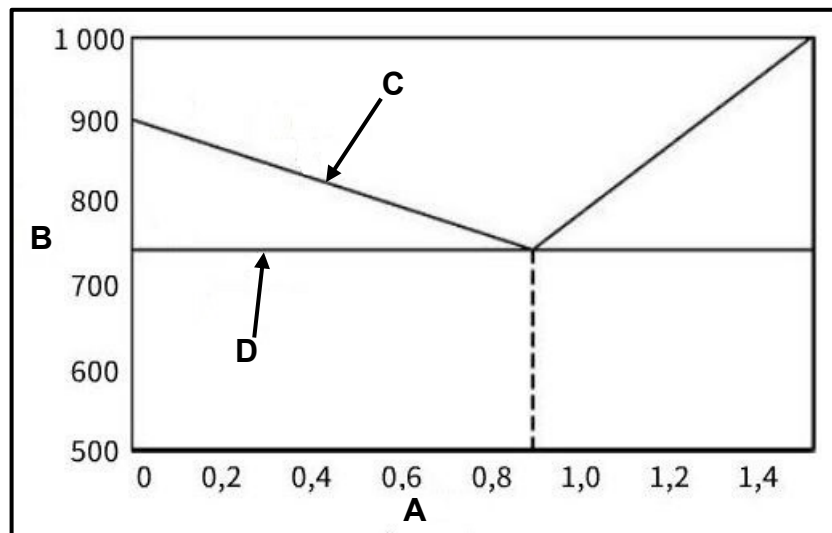

FIGURE 3.2
- 3.2 FIGURE 3.2 below shows the iron-carbon equilibrium diagram. Label **A–D**.